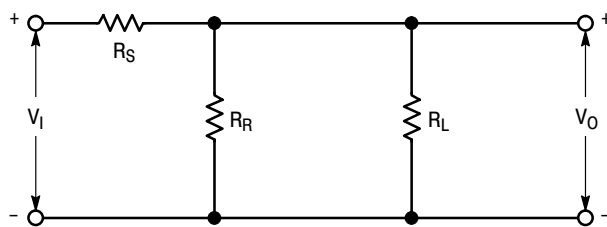

Figure 1. Shunt Resistance Regulator
There are some basic rules of thumb for the electrical requirements of the electronic circuitry in order for it to provide regulation. Number one, the output impedance should be kept as low as possible. Number two, a controlling reference needs to be established that is relatively insensitive to the prevailing variables. In order to illustrate the importance of these rules, an analysis of some simple regulator circuits will point out the validity of the statements. The circuit of Figure 1 can be considered a regulator. This circuit will serve to illustrate the importance of a low output impedance.
going to have to be for the same  $V_O$ , and not until the ratio of  $R_S$  to  $R_R$  reaches infinity will the output be held entirely constant for variation in  $V_I$ . This, of course, is an impossibility, but it does stress the fact that the regulation improves as the output impedance becomes lower and lower. Where the output impedance of Figure 1 is given by
Then for incremental changes in the input  $V_I$ , the changes in  $V_O$  will be dependent on the second term of equation (4), which again makes the regulation dependent on the ratio of  $R_S$  to  $R_R$ . Where changes in the output voltage or the regulation of the circuit in Figure 1 were directly and solely dependent upon the input voltage and output impedance, the regulation of circuit 2 will have an output that varies about the reference source  $V_R$  in accordance with the magnitude of battery resistance  $R_R$  and its fluctuations for changes in  $V_I$ . Theoretically, if a perfect battery were used, that is,  $V_R$  is constant and  $R_R$  is zero, the circuit would be a perfect regulator. In other words, in line with the basic rules of thumb the circuit exhibits optimum regulation with an output impedance of zero, and a constant reference source.